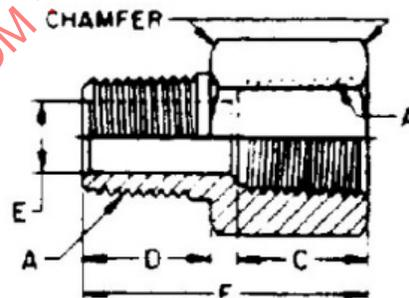

Figure 3 - Adapter (130139)
**Table 2 - Dimensions of adapters and reducer adapters (Figures 3 and 4)**